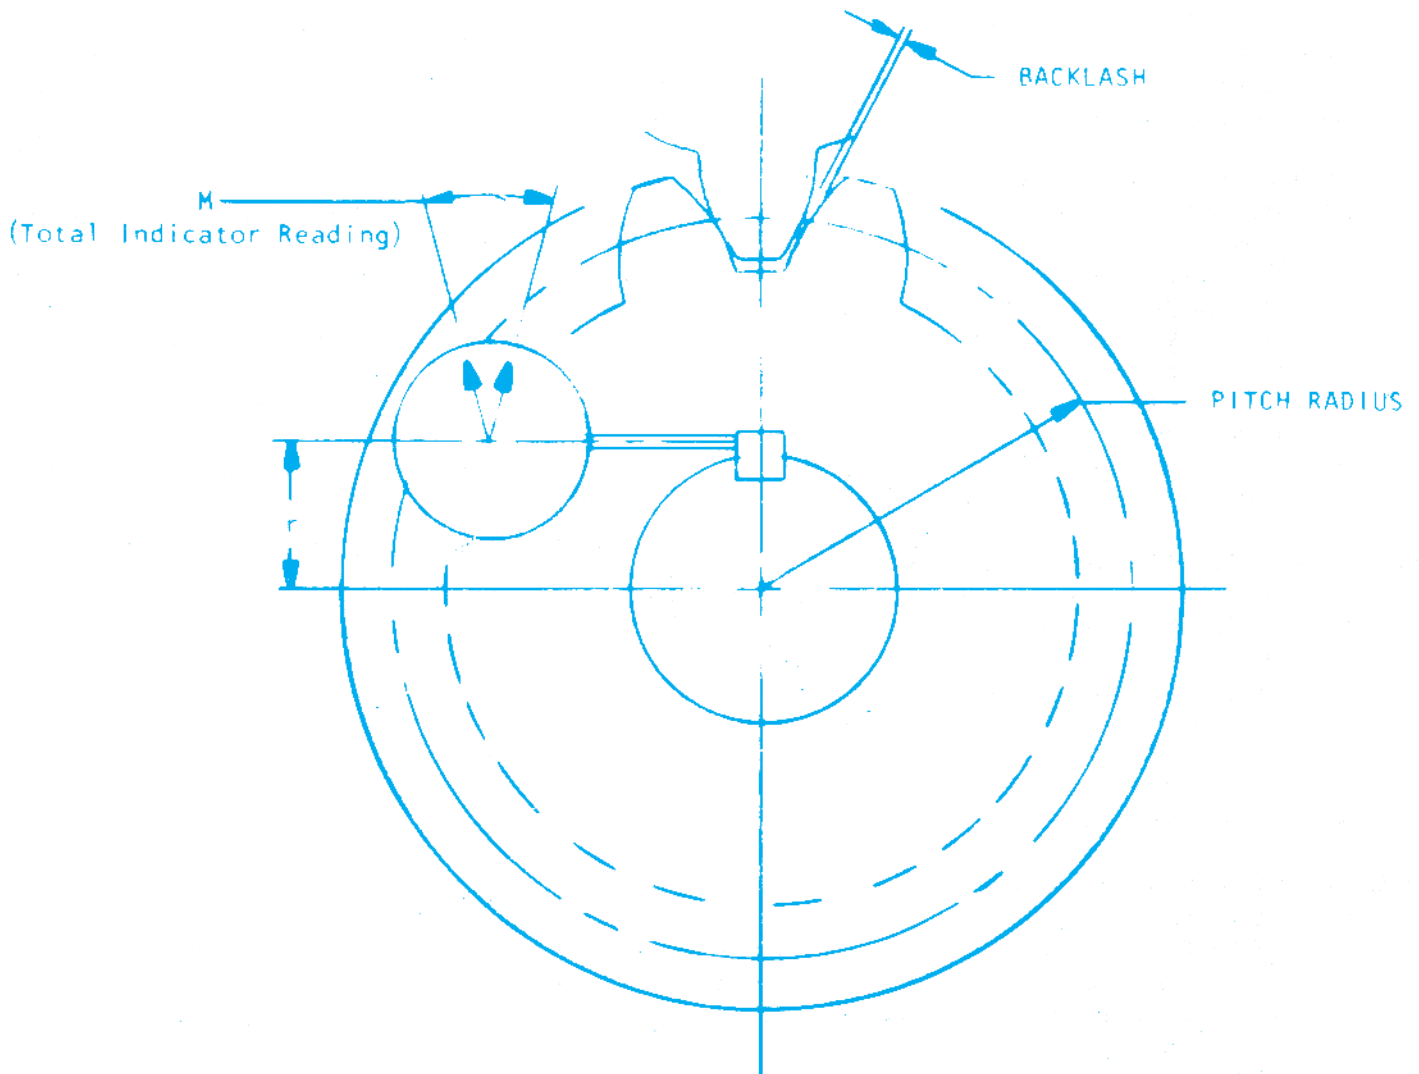

FIGURE 3
- 8.4. Measure the distance from the center of the pinion shaft to the point where the indicator contacts the key (see Fig. 3). This is the "r" value in the equation used in step 8.6. and will be used to obtain the backlash value.